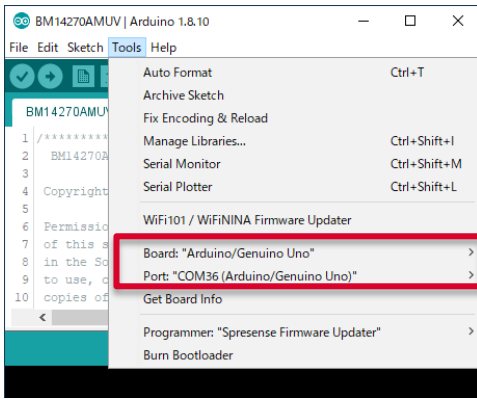

Figure 3. Board and COM Port setting
1. Select [Tools] and check the contents enclosed in the red frame. (Figure 3) Board should be "Arduino/Genuino Uno" and Port should be COMxx (Arduino/Genuino Uno). COM port number is different in each environment.